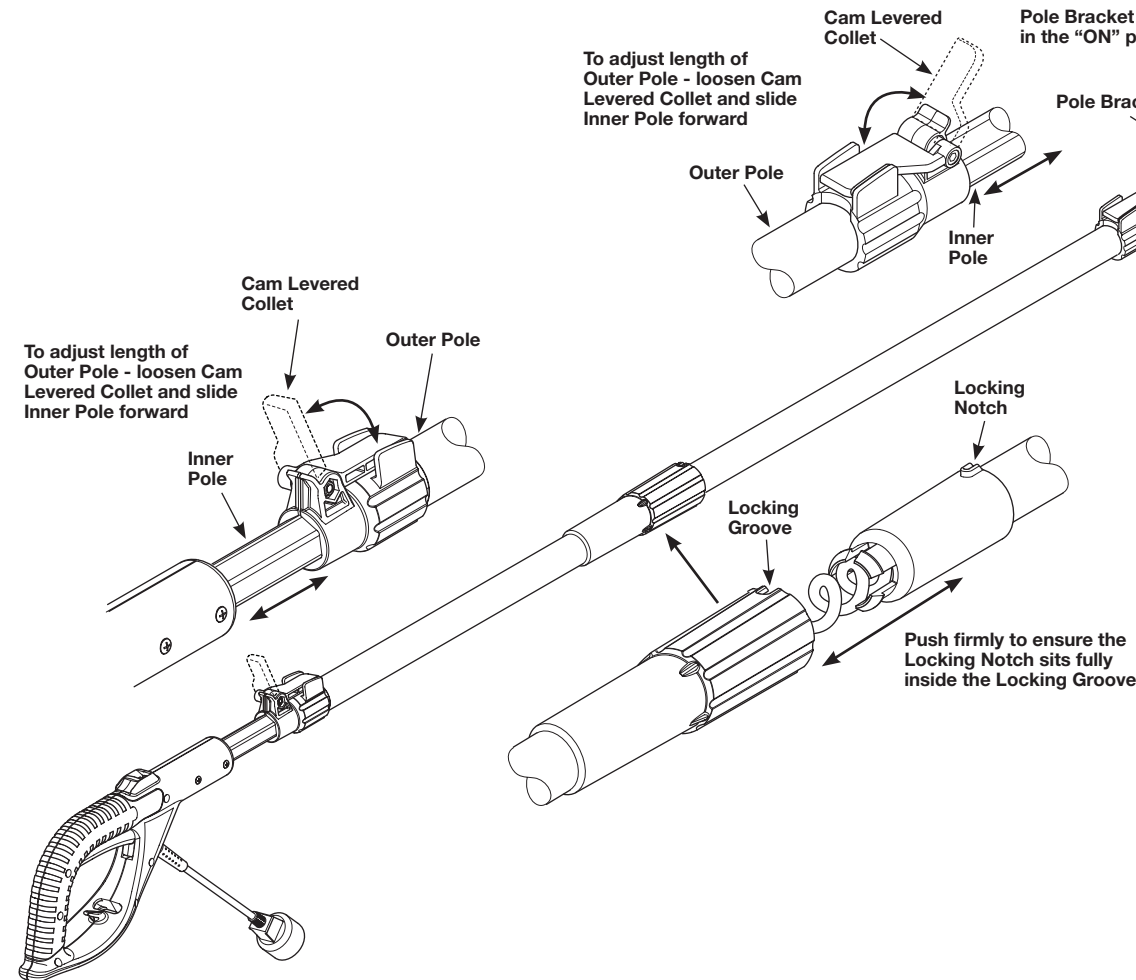

Fig. 4A Assembly Instructions for Remington RM1015SPS Pole Saw
1. Unfold the Telescoping Pole Assembly so that it lays flat as shown (Fig. 4A).